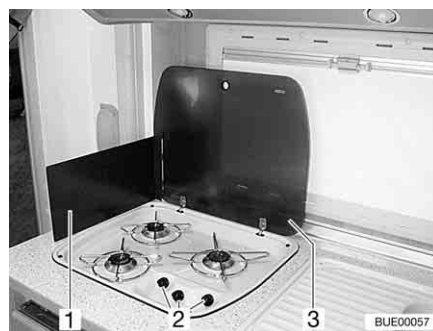

Fig. 184 Gas cooker
- Open the gas cooker lid (Fig. 184,3).
- Fold out or set up the flame protection (Fig. 184,1), depending on the model.
- Turn the control knob (Fig. 184,2) on the burner you wish to use to the ignition position (large flame).